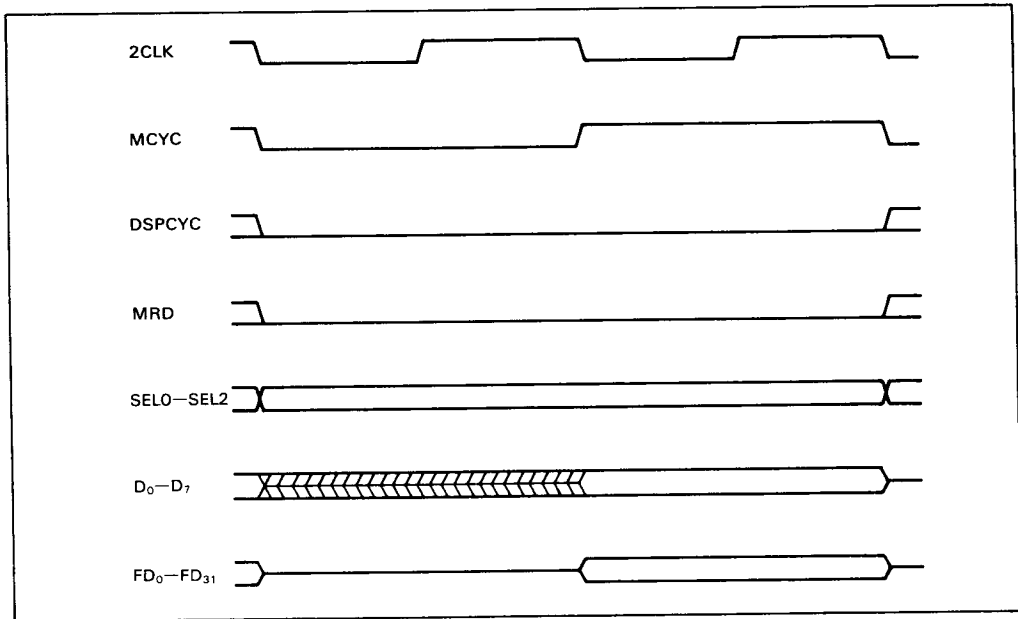

Figure 4. Drawing Write Cycle
**Drawing Write Cycle :** The GVACs recognize a drawing write cycle when both DSPCYC and MRD are low. Figure 4 shows the timing for a drawing write cycle.